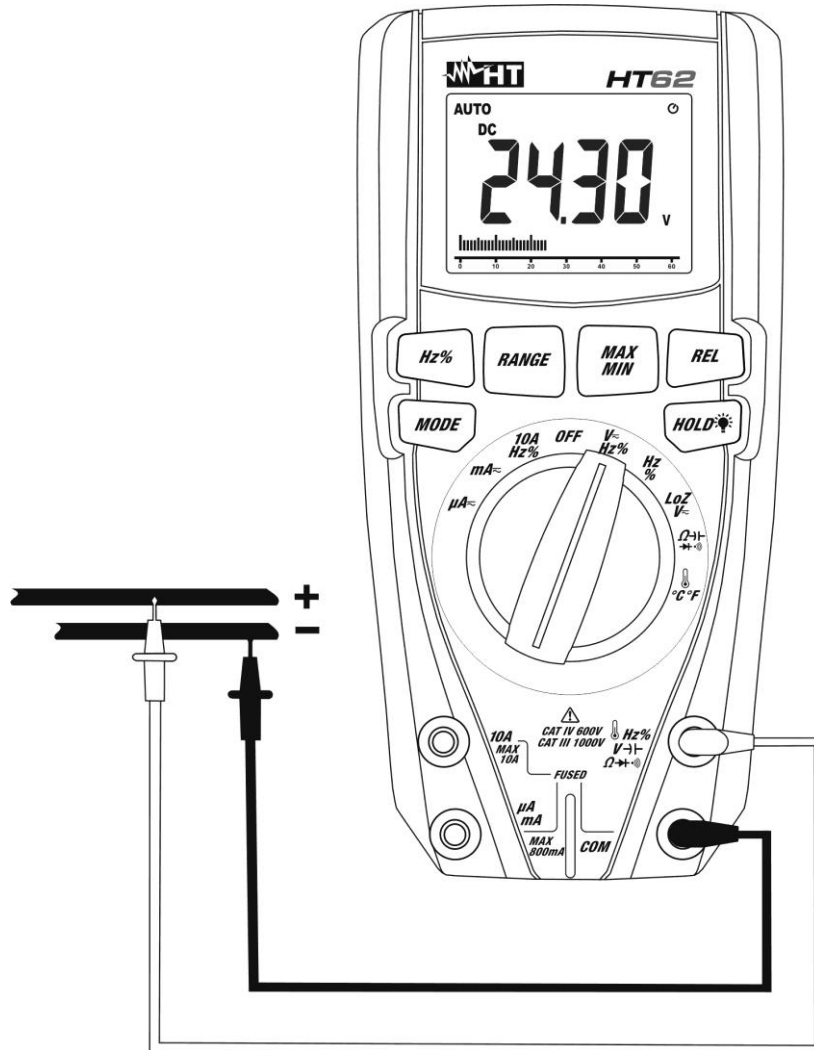

Fig. 2: Use of the instrument for DC voltage measurement
4. Position the red lead and the black lead respectively in the spots with positive and negative potential of the circuit to be measured (see Fig. 2). The display shows the value of voltage.
6. When symbol "-" appears on the instrument's display, it means that voltage has the opposite direction with respect to the connection in Fig. 2.